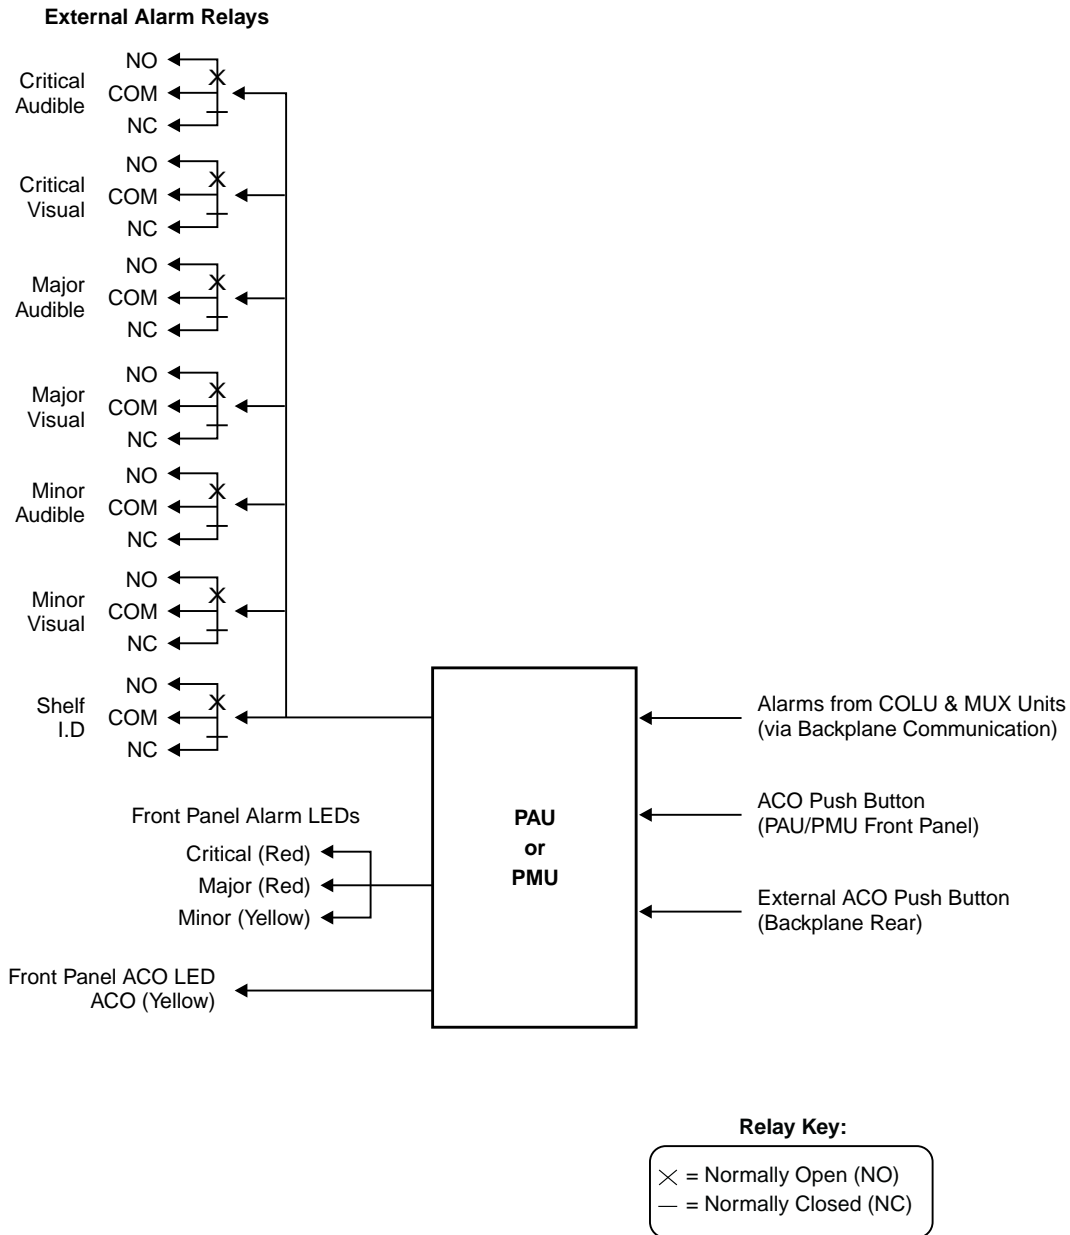

Figure 3. Alarm Relay Contacts from PAU/PMU to COT Shelf Backplane Wire-Wrap Field
The COT shelf provides access to the PAU/PMU alarm relays by way of wire-wrap pins on the COT shelf backplane. Both normally open (NO) and normally closed (NC) relay operation is supported. Figure 3 shows the configuration of the alarm relays.